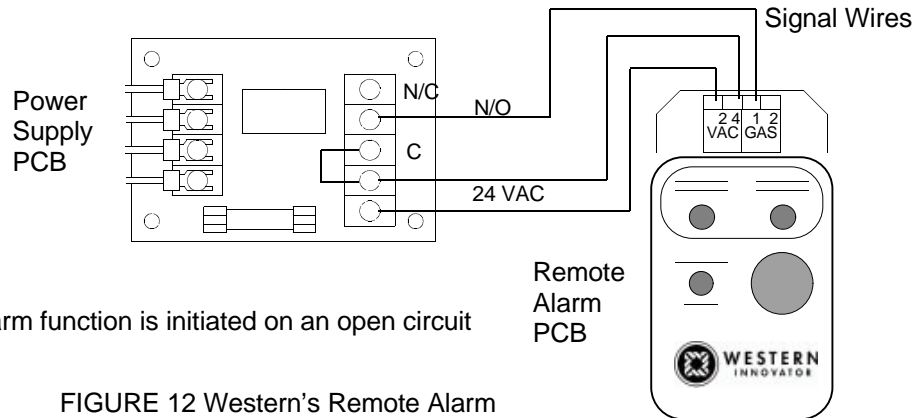

FIGURE 12 Western's Remote Alarm
1. Connect one 24 VAC lead from the alarm to one 24 VAC terminal on the right side of the circuit board in the power supply box. (Figure 12)
3. A jumper wire is connected between one 24 VAC terminal and the common (C) terminal.